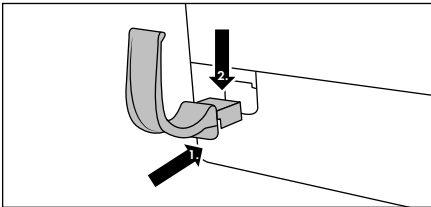

Fig. 1
- ◆ Insert the hose holder **16** into the opening of the appliance and push it down to seat it firmly (see Fig. 1).